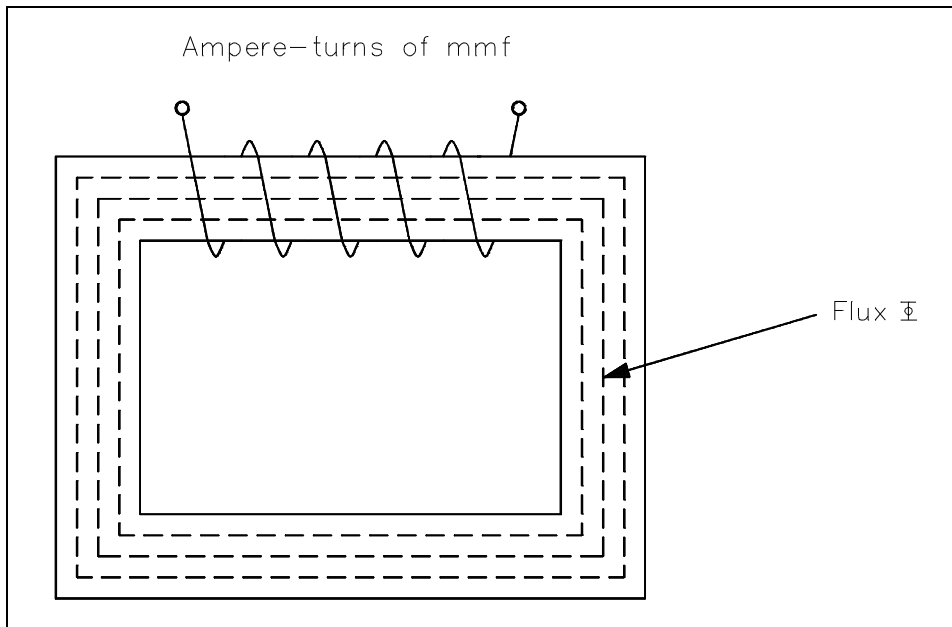

Figure 26 Magnetic Current with Closed Iron Path
A magnetic circuit can be compared with an electric current in which EMF, or voltage, produces a current flow. The ampere-turns (NI), or the magnetomotive force (F_m or mmf), will produce a magnetic flux Φ (Figure 26). The mmf can be compared with EMF, and the flux (Φ) can be compared to current. Equation (1-16) is the mathematical representation of magnetomotive force